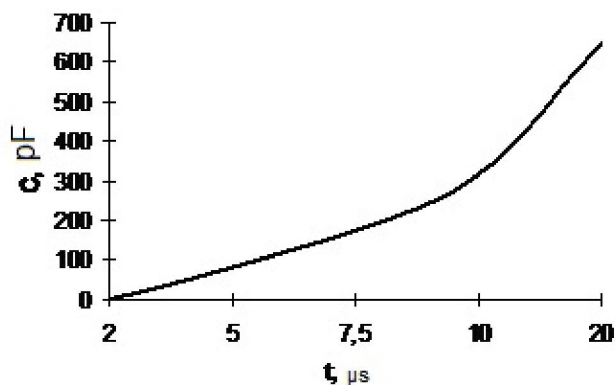

Figure 9 – Dependence graph of turn-on delay duration versus trimmer capacity nominal  $C_b$
| Non-saturation protection operation delay time                      | $t_{BLOCK1}$   | $\mu$ s    | 2     |      |      | adjusted by customer; see Figure 9  |
**Capacitors  $C_{b1}$ ,  $C_{b2}$**  – timing capacitors turn off delay of relevant controlled transistor at current overload, where  $x$  – a serial number of the unit from 1 to 3. Delay for protection activation is necessary to avoid false alarm of short term inductive ejections and at transient processes turn-on. At this time duration of present delay will be equal to duration of “reset impulse” in case of emergency. At protection activation decreasing it is recommended installing capacitors with values that are shown at Figure 9. Initially are installed capacitors with capacity 100 pF that is relevant to duration of  $5\mu s$  delay (typ.).